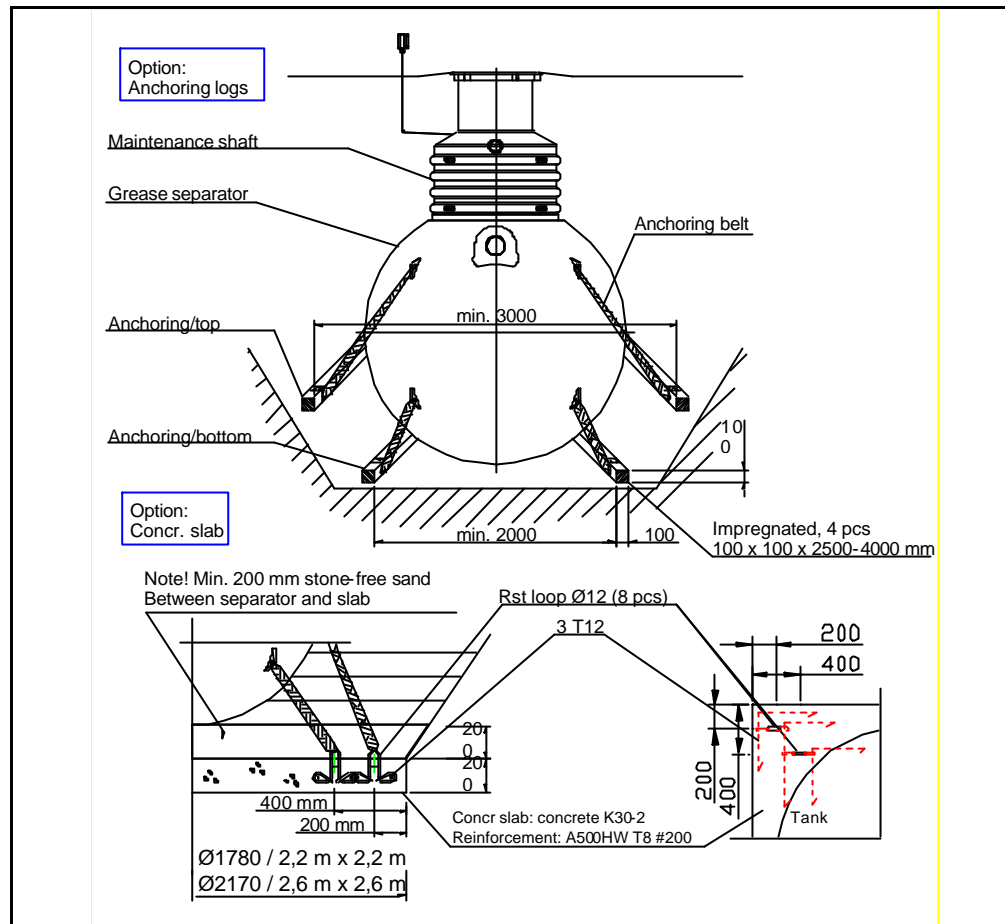

Figure 2. Anchoring the separator in an area with ground-water and on weak grounds.
The measures of the anchoring slab can be read in Figure 2. When necessary, the concrete volume of the anchor should be increased. NOTE! There should be a compacted sand layer of min. 200 mm between the tank and the concrete slab.
3. Compact the sand layer around the separator carefully on each side. Compacting can be carried out using light manual vibration. Continue compacting the sand by 15 cm layers until you reach the level where the sampling shaft EuroNOK is installed. Mount the sampling shaft directly on the concrete slab and attach the anchoring belts (See Figure 2). Then continue compacting the sand up to the inlet and outlet connections. Install pipes to the inlet and outlet connections of the sampling shaft and separator. Avoid using strong vibration on the pipelines. Add water to the tanks as the thickness of sand layer increases.